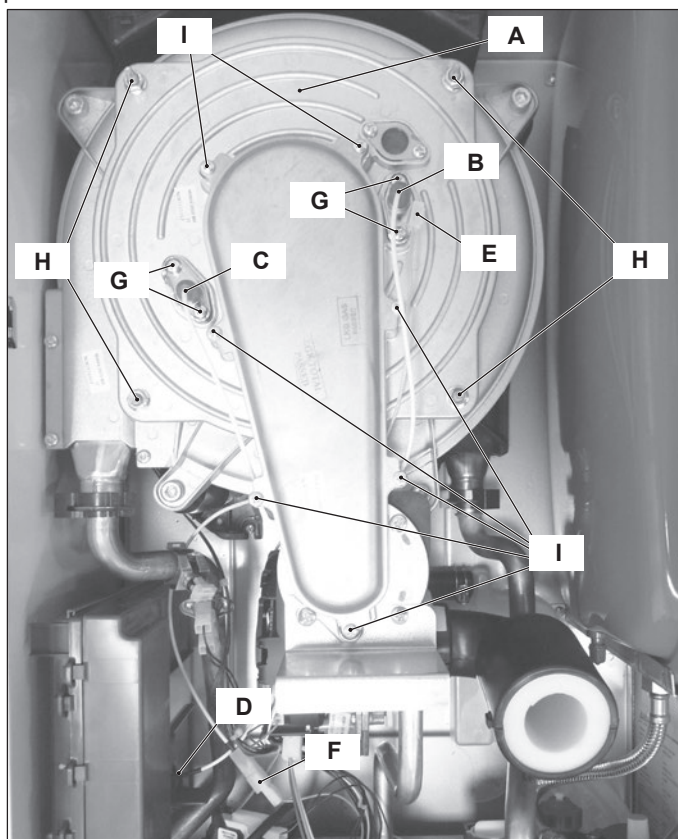
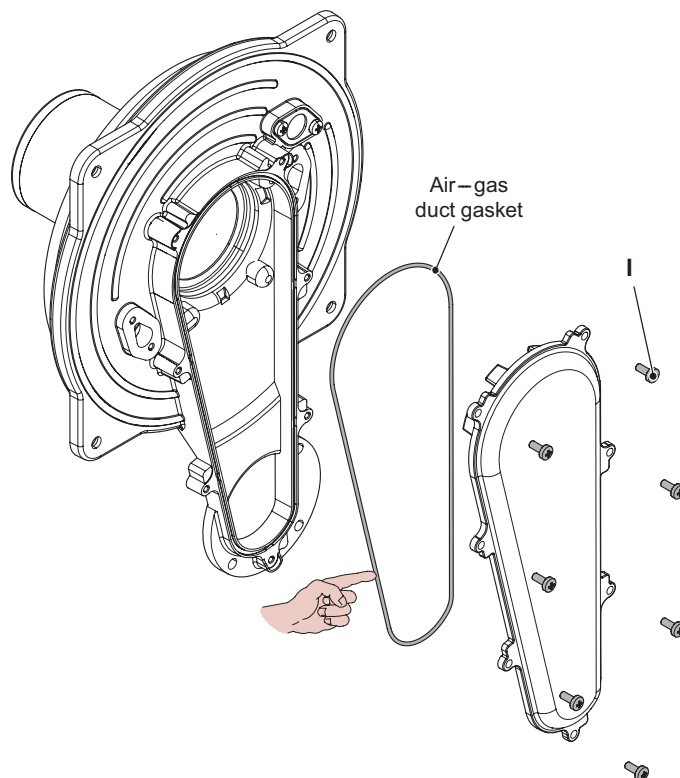

Figure 11.1
Figure 11.3
- 2 Disconnect the ignition electrodes connector "D" and the earth wire "E" (Figure 11.1) and disconnect the detection electrode connector "F".
- 1 Unscrew the screws "I" (Figure 11.1 - Figure 11.3) and remove the Air-gas duct lid.
After any periodical servicing or disturbance the combustion chamber silicon seal (Figure 11.4) and the Air-gas duct gasket (Figure 11.3) must be fully inspected and replaced at the discretion of the service engineer.
- 3 Unscrew the screws "H" (Figure 11.1) and remove the cover of the combustion chamber.